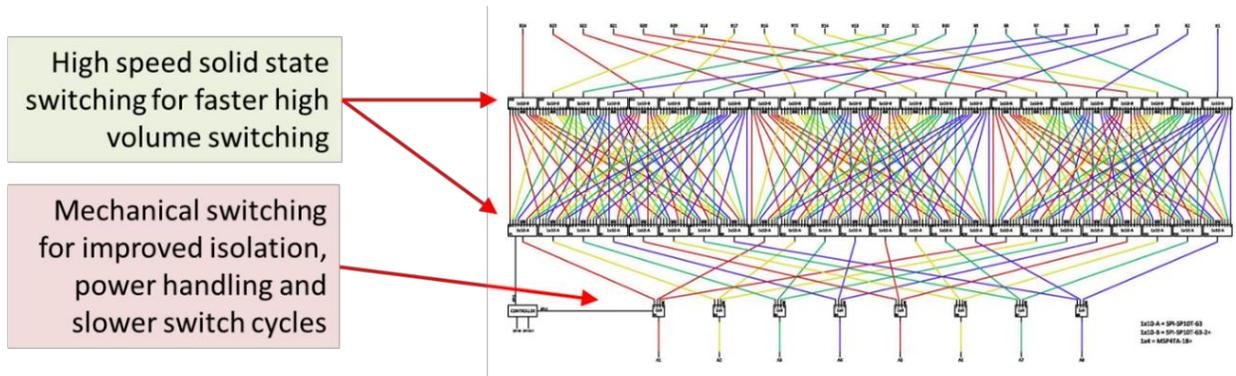

Figure 2. Switch matrix designs are optimized to take advantage of each switches' unique performance parameters.
Let's consider a real example supporting telecom test applications from 600 MHz to 6 GHz. **Figure 2**
**Figure 2** illustrates the elaborate switching network beyond the SP4T switches. To accomplish this signal routing and still meet the test time requirement, we used our SPI-controlled RF SP10T solid state switches (SPI-SP10T-63). With this model's 6 microsecond switching speed, all the solid state switching routes can be cycled in less time than the mechanical switch performs a single cycle. It also provides 80 dB isolation and +27 dBm power handling, meeting the requirements for this telecom application. The configuration in this example takes advantage of the benefits of both switching types and allows for a wide range of testing to be performed.